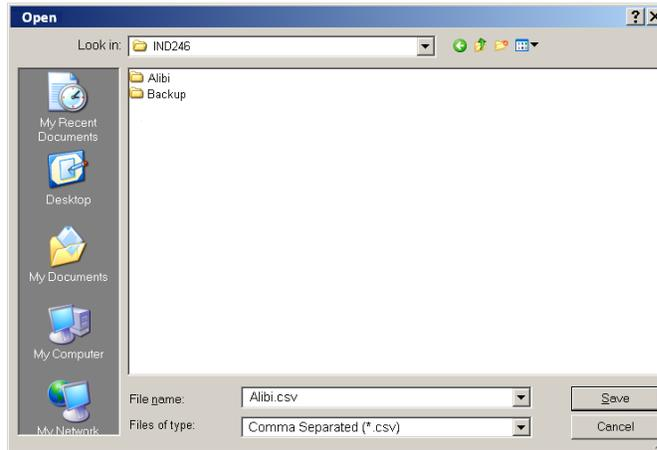

Figure 3-9: Windows Explorer "Open" dialog
5. Click **cancel** to abort this process, or click **Open** to keep the information entered and return to the **Write to Terminal** dialog. See Figure 3-9.